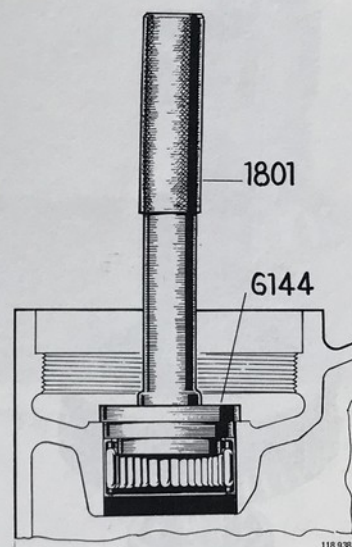

Fig. 92-68. Pressing in the needle bearing
1. Press the needle bearing for the worm into the housing with 6144 + 1801, see Fig. 92-68.